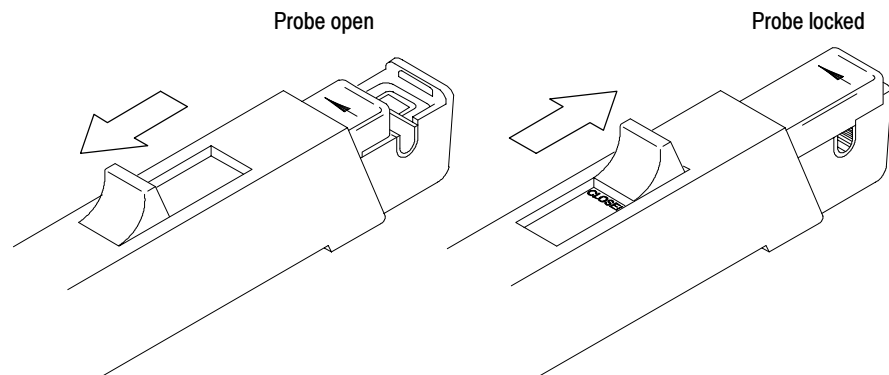

Figure 2: Operating the probe slide
Figure 2 illustrates the slide operation of the probe. To open the probe, pull the slide back until the jaw is open. To lock the probe, push the slide forward until the detent snaps into place.
3. Lock the probe slide closed (see Figure 2).